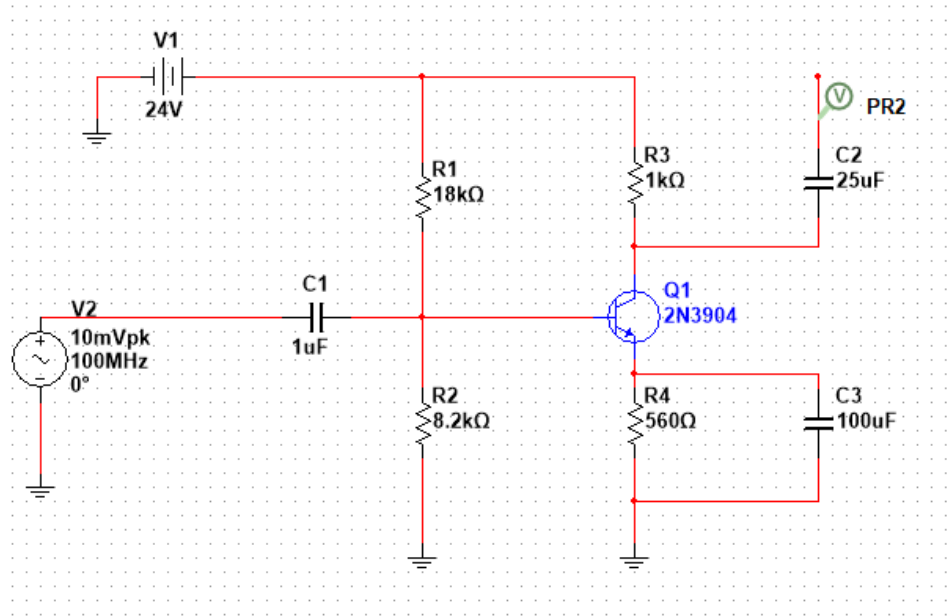

Figure 4: Common emitter amplifier
1. Build the circuit in Figure 4.